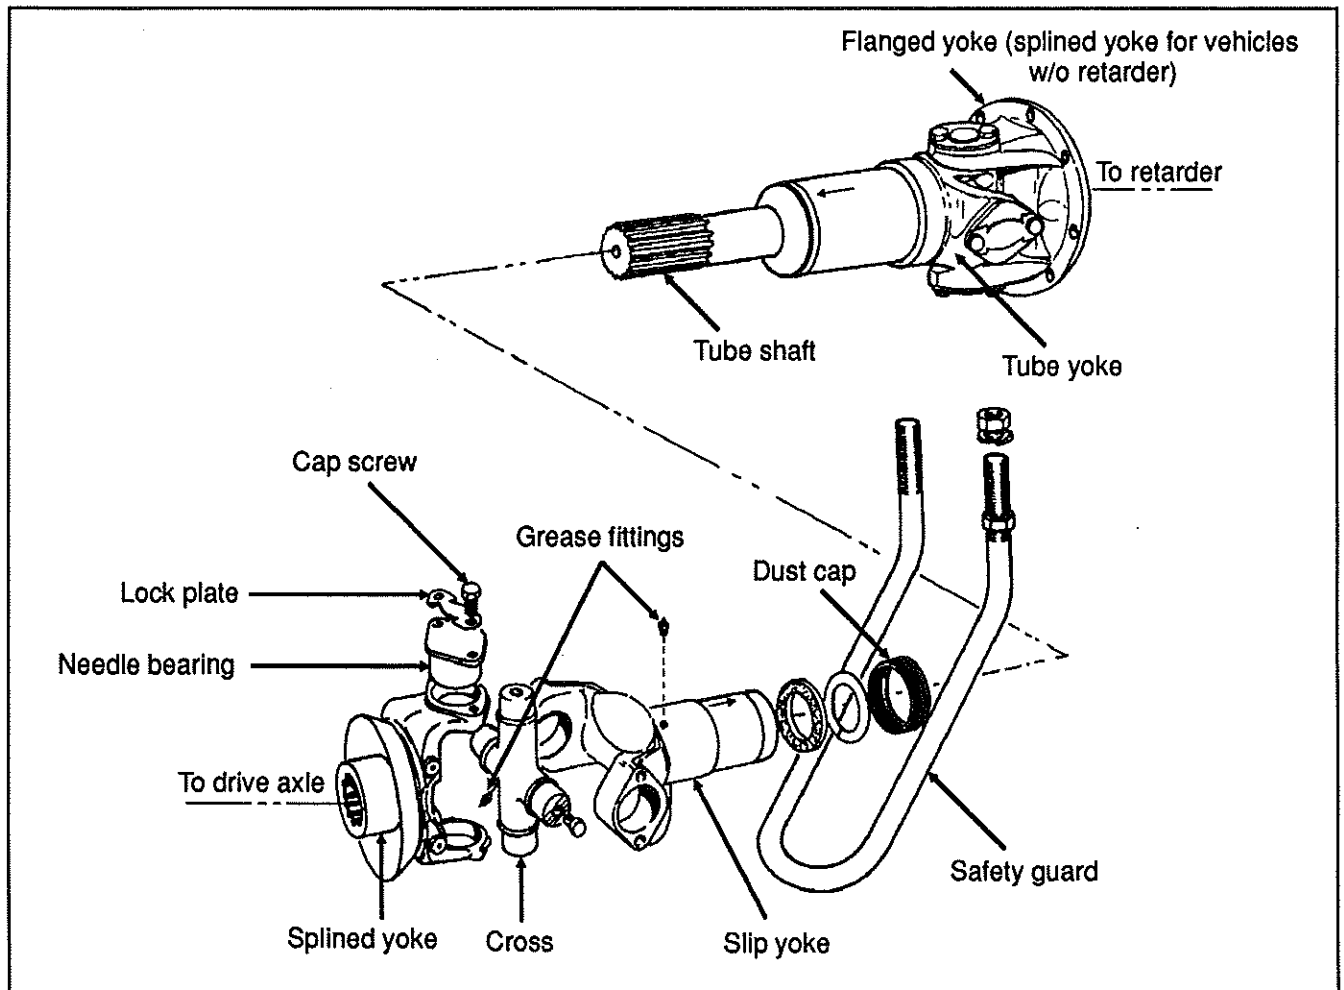

Fig. 15
3. On vehicles without retarder, disconnect tube yoke from splined yoke by removing the two bearings from splined yoke. To proceed, remove the two cap screws retaining the bearing at each end of the splined yoke, as outlined under heading "Disassembly of universal joint", later in this section. Refer to figure 15 for details.